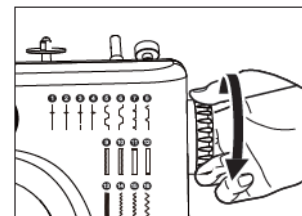

Fig.10
7. When you finish the sewing, turn off the switch, unplug the adapter, turn the hand wheel to raise the needle up, lift the presser foot, and then gently remove the fabric from the sewing machine, and cut the thread with the thread cutter (Fig.10).